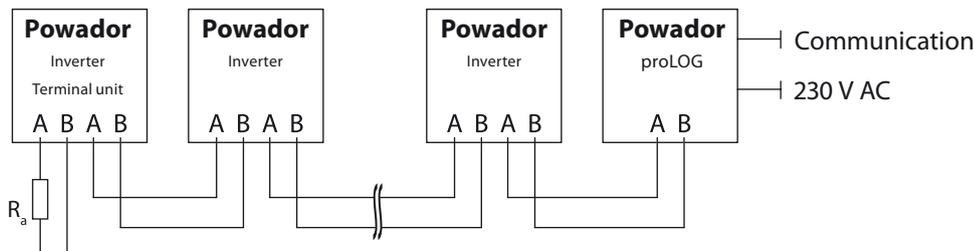

Fig. 11: RS485 interface wiring diagram
- Wire B (+) with wire B (+) (see figure 11 on page 26)